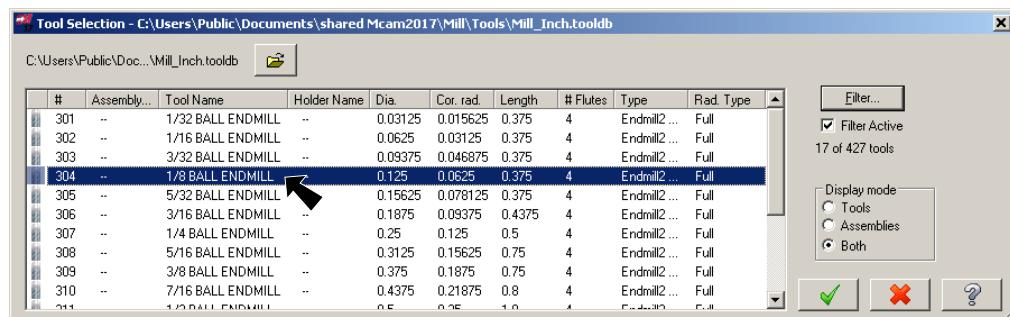

Fig. 14
Step 14. Click **304 1/8 Ball End-mill**, Fig. 14 and click OK.